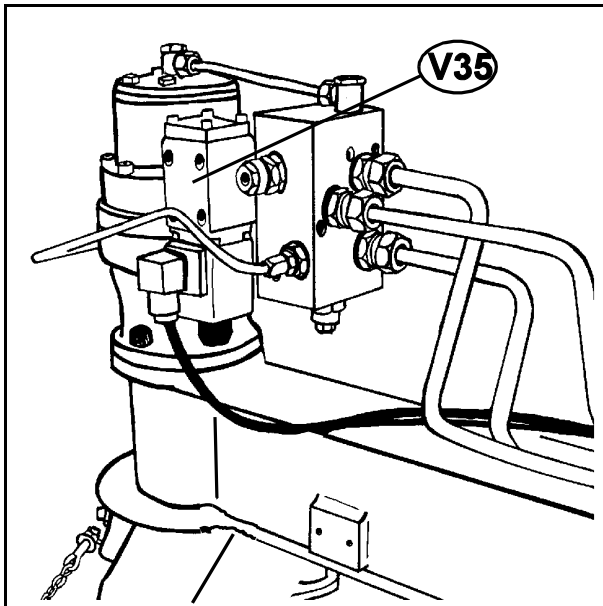

Fig. 14-6
The wrapping arm block is fitted on the wrapping arm motor, and contains 4 valves. (On TWIN machines there is an additional electro-magnetic reversing valve, V35, fig. 14-6).
- V35 Reversing valve (TWIN models) (LC1-A11A) (Electric cable no. 14) (Fig14-6, next page)**